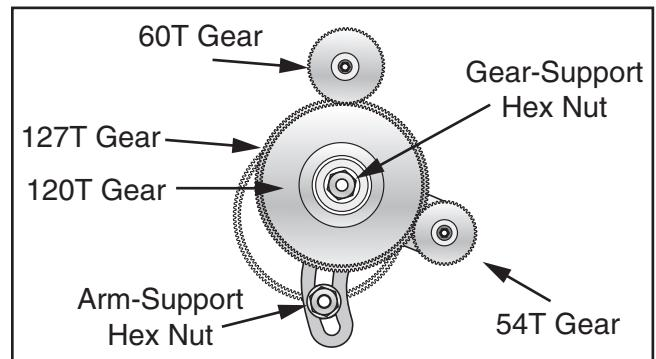

Figure 74. 60T & 54T gears installed.
- Slide **120T** gear against lower **54T** gear (see **Figure 74**) until they mesh with 0.002" to 0.004" backlash, then tighten gear support hex nut.